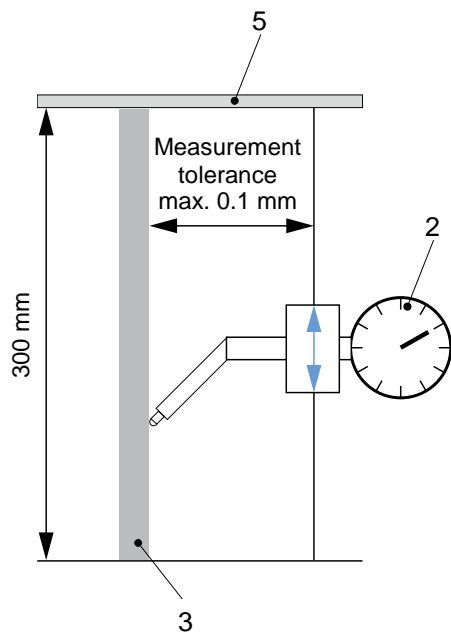

Fig. 1: Alignment piston rod
## 9.2 Installation (Figs. 1 and 2)
The piston rod support (Fig. 1 Item 5) and the piston rod (Fig. 1 Item 3) (customer-side) must be exactly aligned with one another. Max. Deviation to 0.3 m = 0.1 mm
1. Connect the pneumatic hose with Ø m1 (Fig. 1, section 4.3) to the compressed air connection (plug-in fitting item 6)